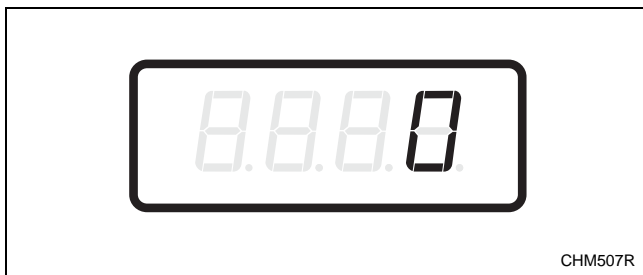

Figure 4
4. When “dEn1” appears in the display, press the START (enter) keypad. There are five digits in the Coin #1 Value. The fifth digit will appear in the display and will flash one (1) second on, one (1) second off. Refer to *Figure 4*.